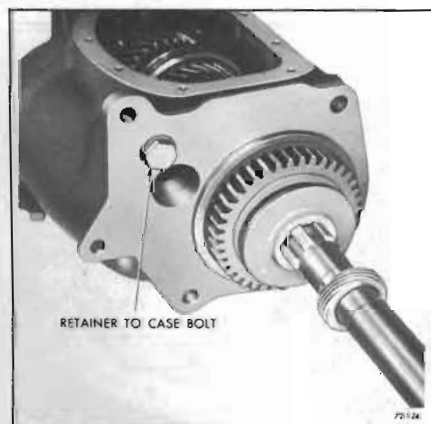

Figure 72-124—Bearing Retainer To Transmission Bolt
13. Install the self-locking bolt attaching rear bearing retainer to transmission case. Torque to 20 to 30 lbs. ft. See Figure 72-124.